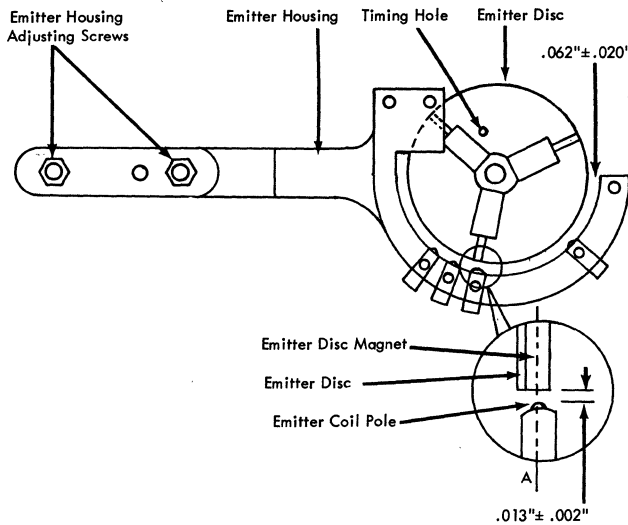

Figure 3-49a. PA Emitter Assembly
3. Position emitter disc horizontally, so disc magnet is opposite number three coil pole (Figure 3-49A, Insert A).
1. Position emitter housing for  $.062'' \pm .020''$  between emitter housing and emitter disc (Figure 3-49A).